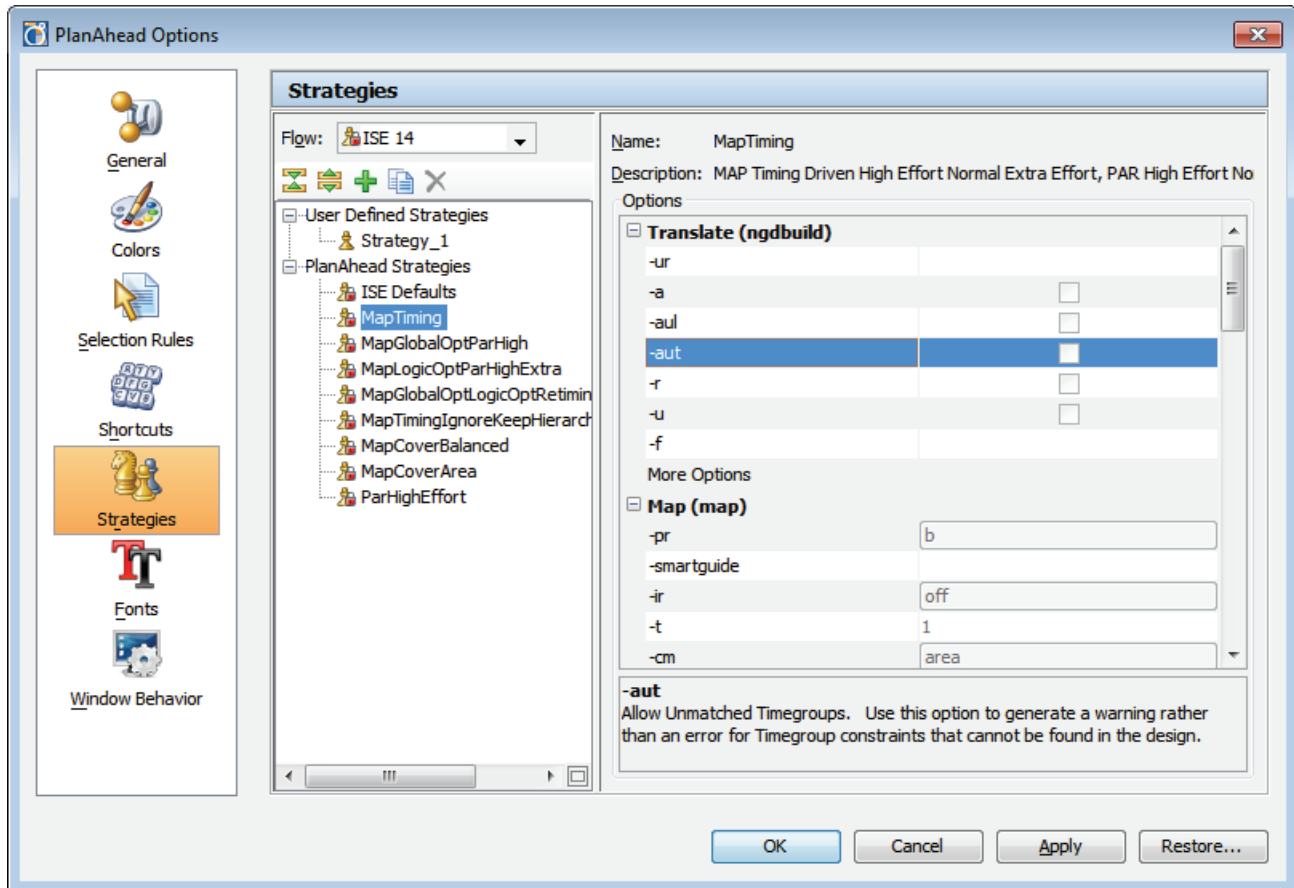

Figure 4-68: Strategies Options
2. Select **Strategies** in the left-side panel. The Strategies dialog box, shown in Figure 4-68, page 177, contains a list of pre-defined strategies for each ISE and Xilinx Synthesis Technology (XST) version.
- Modify command options by clicking in the command option area (to the right), and selecting an option from the pull down menu, or typing a new value. Available command option settings display in the popup menu, as shown in Figure 4-68, page 177. Notice that you cannot change the default options for predefined PlanAhead tool strategies.